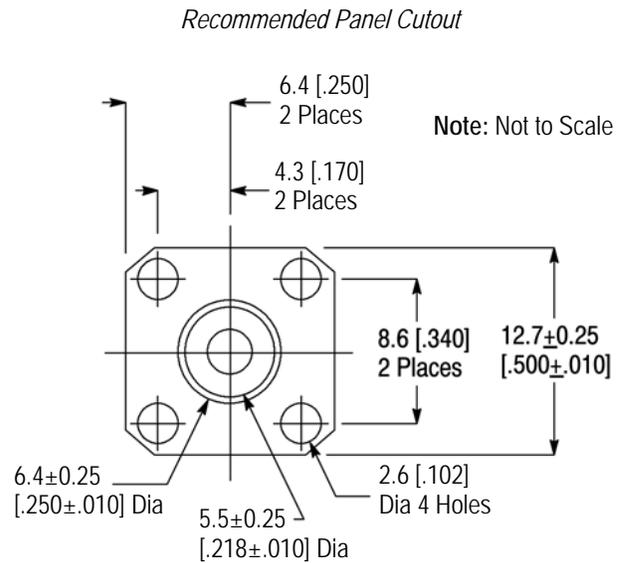

Figure 5
1. Cut the panel using the dimensions provided in Figure 5.